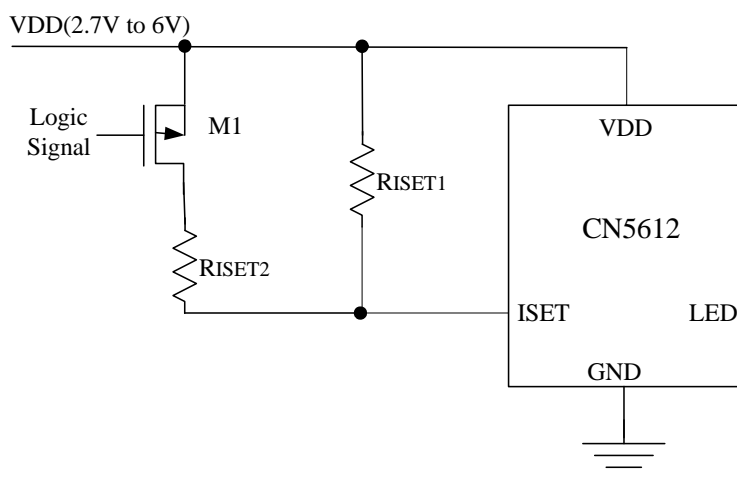

Figure 6 Dimming Control by Using Logic Signal
2. Using a logic signal for dimming control as shown in Figure 6
For applications that need to adjust the LED current in discrete steps, a logic signal can be used as shown in Figure 6. R_{ISET1} sets the minimum LED current (when the PMOS is off, namely logic signal is high). R_{ISET2} sets how much the LED current increases when the PMOS is turned on (logic signal is logic low).